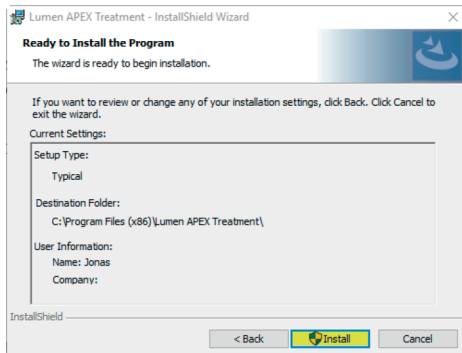

Fig. 12
4. If you would like to change some of the selections that you have made on the installation screens, pressing the **Back** button will return you to the previous screen (Fig.12).
5. Pressing the **Install** button on the last screen will start the installation process (Fig.12).